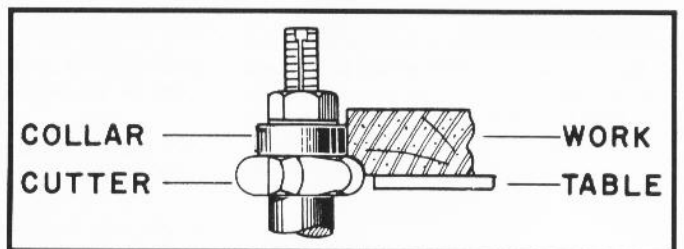

Fig. 35
3. When the collar is used above the cutter as shown in Fig. 35, the cut cannot be seen, yet this method offers some advantage in that the cut is not affected by slight variations in the thickness of the stock. Also accidental lifting of the work will not gouge the workpiece. Simply correct the mistake by repeating the operation.